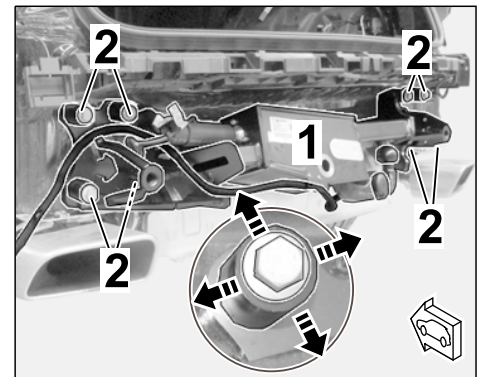

Figure 7
2.1.2 Align bolt guides for the trailer hitch (8 x) symmetrically with respect to the 8 bolt heads (M12 x 1.5 x 90) (⇒ *Figure 7 -inset-*).